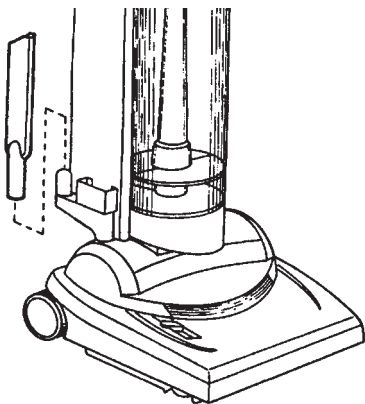

Figure 4c
1. Fit the wide end of the Crevice Tool onto the dome-headed cylinder of the Tool Holder. (See Figure 4c.)